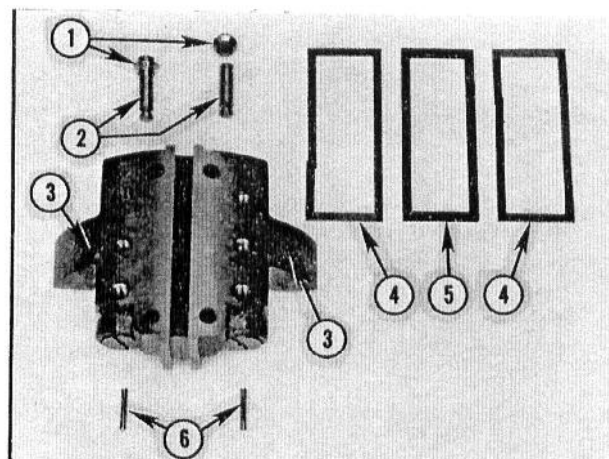

Fig. 40 — Barrel Vane and Related Parts*
3. Install new vane seals on the barrel vane, see Figs. 40 and 41.